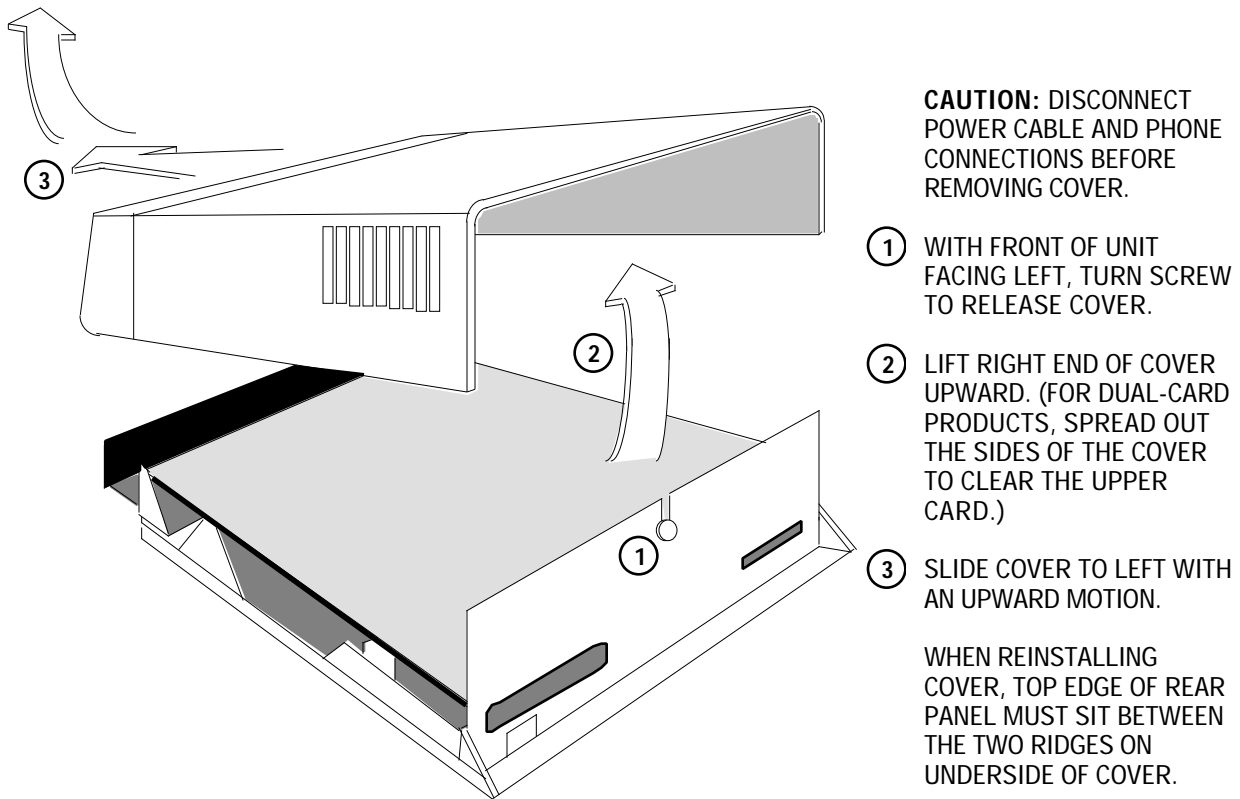

FIGURE 2-2. DataComm ENCLOSURE COVER REMOVAL PROCEDURE
3. Remove the cover, as shown in Figure 2-2.